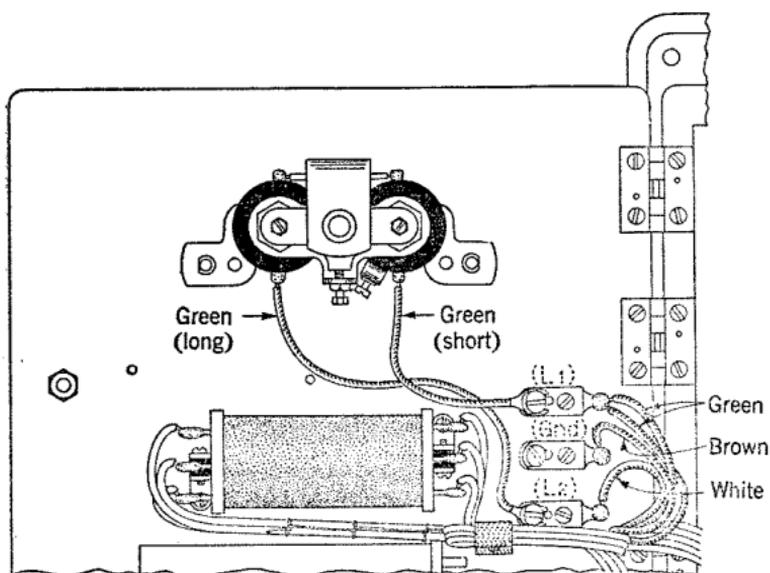

Fig. 3
4.03 To facilitate making ringer connections three terminals are provided on the door of the set just below the ringer. These terminals are permanently connected to the L1, G and L2 terminals (line terminals) of the set but are not so designated in the set. Location of the respective terminals is shown in Fig. 3.